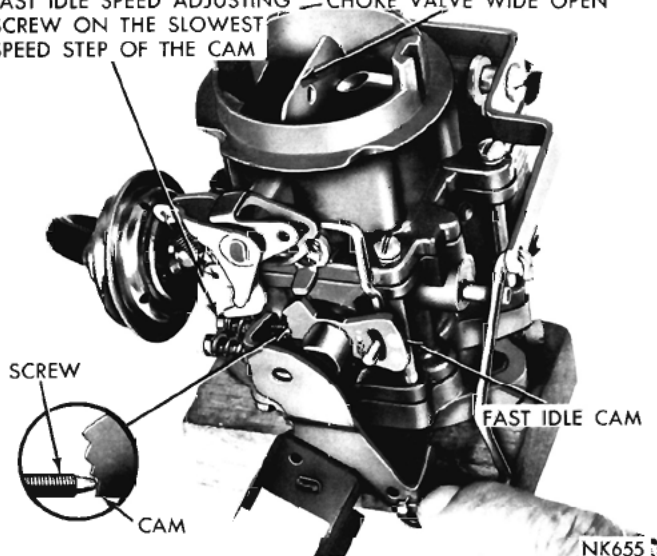

Fig. 19—Fast Idle Speed Adjustment (on the vehicle)
(1) With the engine running, and the transmission in the neutral position, open the throttle slightly.
(2) Close the choke valve about 20 degrees then allow the throttle to close. Return the choke valve to the open position.
(3) The fast idle speed adjusting screw should be contacting the slowest speed step on the fast idle cam, as shown in (Fig. 19).
(4) With the engine warmed-up to the normal operating temperature, turn the fast idle speed adjusting screw in or out to secure 700 r.p.m. **Reposition the cam and throttle after every screw adjustment to apply normal throttle closing torque.**